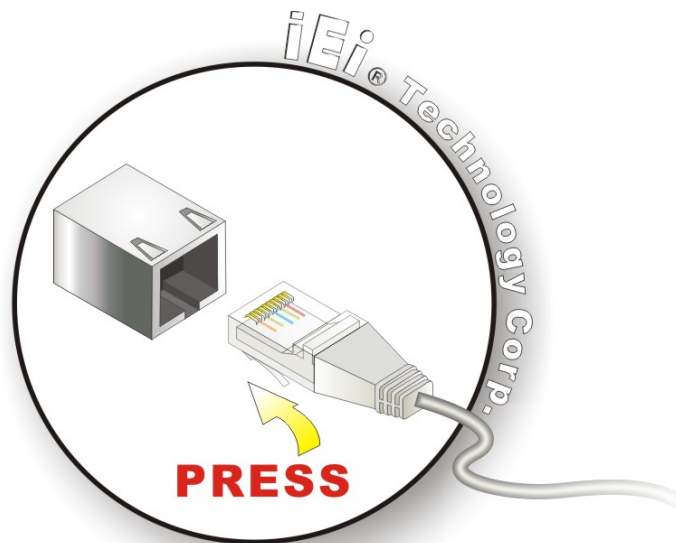

Figure 4-14: LAN Connection
Step 2: Align the connectors. Align the RJ-45 connector on the LAN cable with one of the RJ-45 connectors on the WAFER-945GSE2. See **Figure 4-14**.